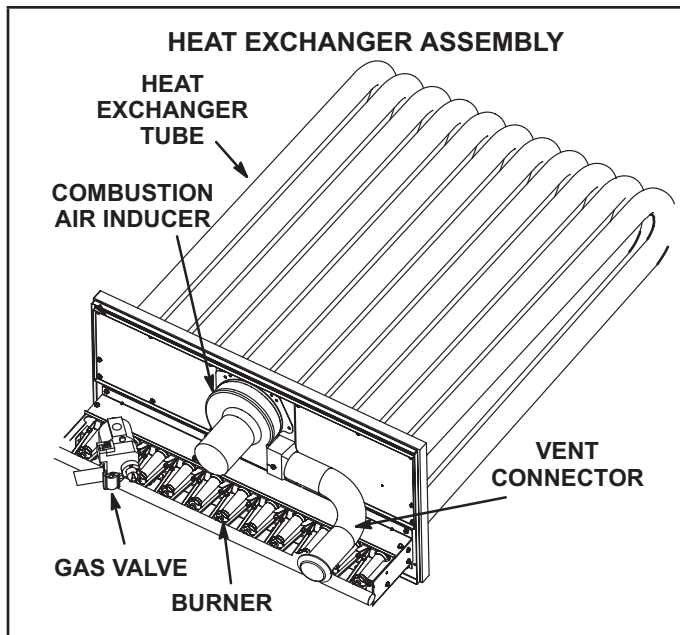

FIGURE 41
- 3 - Remove and retain screws securing combustion air inducer to flue box. Remove vent connector. See FIGURE 41.